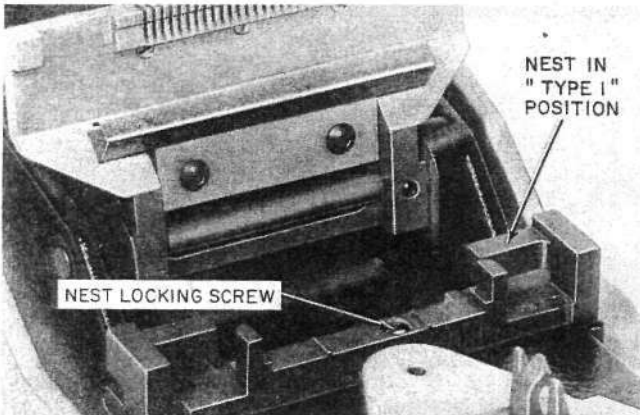

Fig. 11—Connector Nest in Type 1 Position
**4.07 Nest**—To replace a damaged or defective nest, first remove the locking screw (Fig. 11) and lift off the nest. Put a new nest in position and lock it down with the screw.